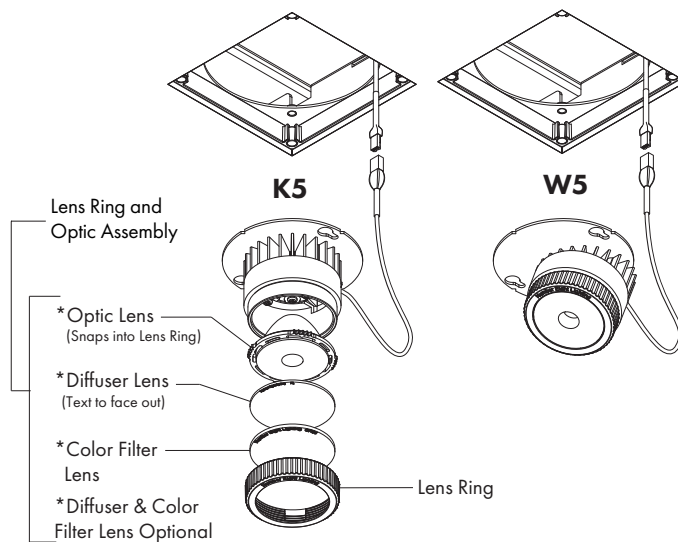

FIG 12.3 Remove/Replace K5/W5 Lamp Modules
STEP 2 Replace Lamp Module into desired orientation making sure slots are fully seated against screws. Re-tighten screws securely (DO NOT OVERTIGHTEN) - **FIG 12.3**.
STEP 2 Remove Lamp Module and disconnect wire connectors - **FIG 12.3**.